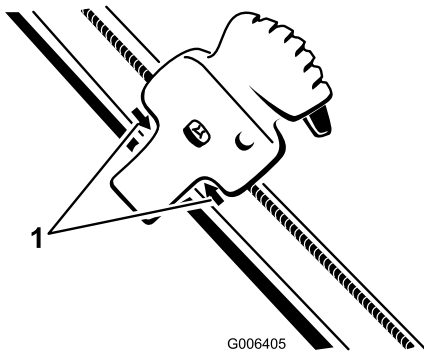

Figure 41
- Position the Quick Shoot control between the two arrows located on the right hand side of the upper handle (Figure 41).